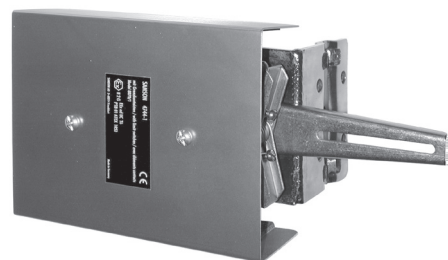
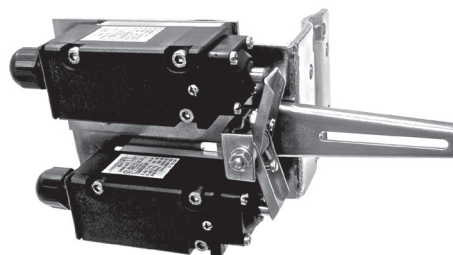

Fig. 1: Type 4744 Electric Limit Switch with protective cover
Fig. 2: Type 4744 Electric Limit Switch with two momentary-contact switches and protective cover removed
- **Type 4744** (Fig. 1 and Fig. 2) · Limit switch with one or two momentary-contact limit switches designed as a position switch conforming to EN 50041. Each contact is equipped with one NC contact and one NO contact, acting as a snap-action switch, which can also be switched as a single pole, double throw switch (SPDT).
Principle of operation (Fig. 2)